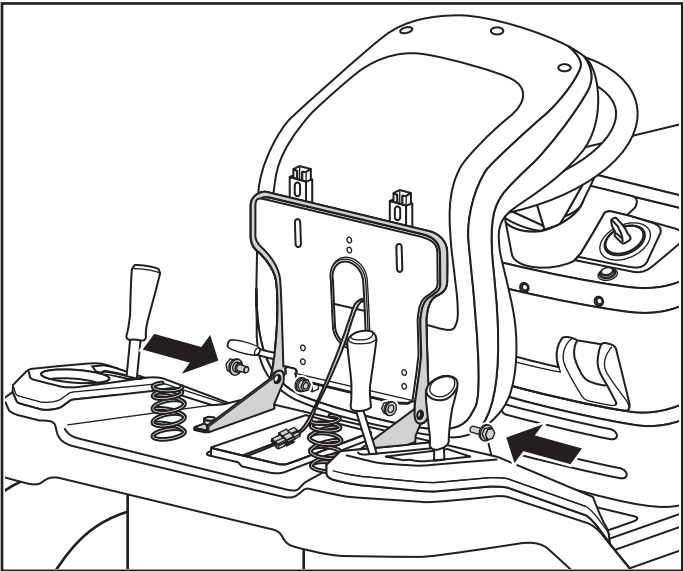

Fig. 7
- 1. Connect the seat to the mower base with bolts and nuts provided to a torque of 15-19 ft-lbs. (Fig. 7)